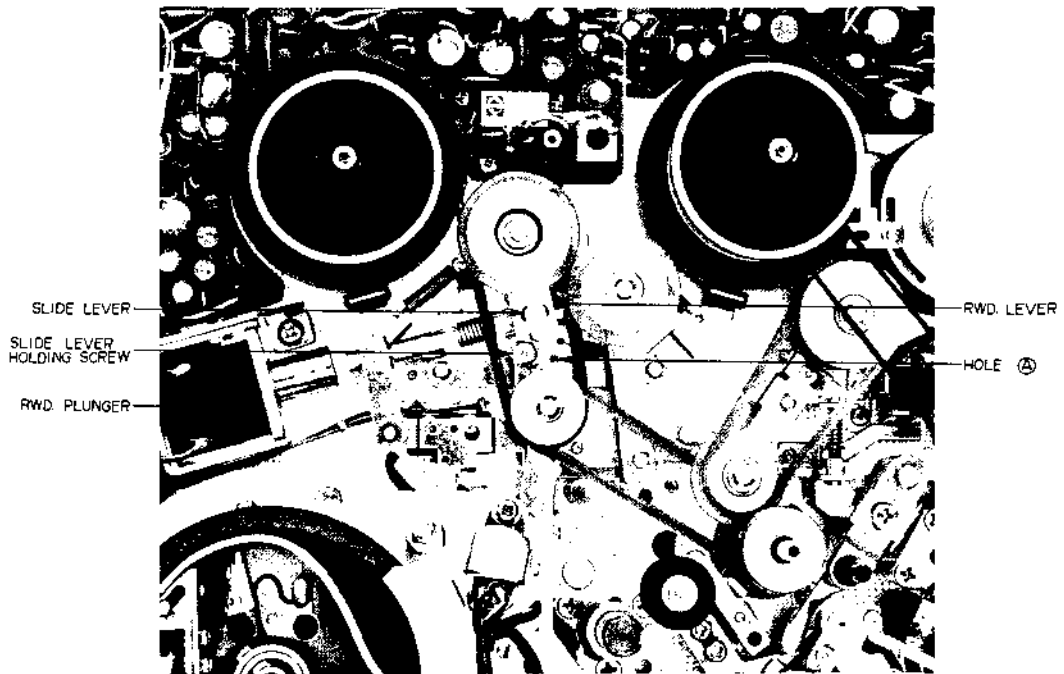
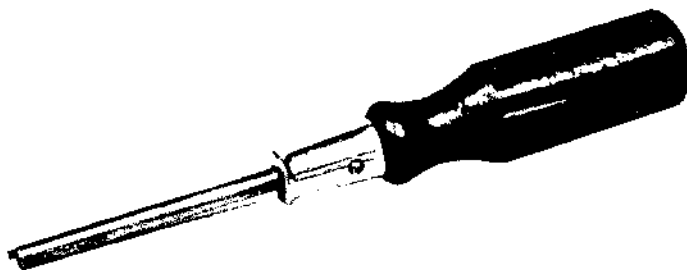

Fig. 1-13
Fig. 1-14
As shown in Fig. 1-13, when the pin of adjustment driver (Refer to Fig. 1-14) is fitted in hole ① of rewind lever and the slide lever holding screw is at a slightly loosened condition, rewind torque can be adjusted by turning the adjustment driver and changing the angle of the slide lever. If rewind torque is within specifications, tighten slide lever holding screw.